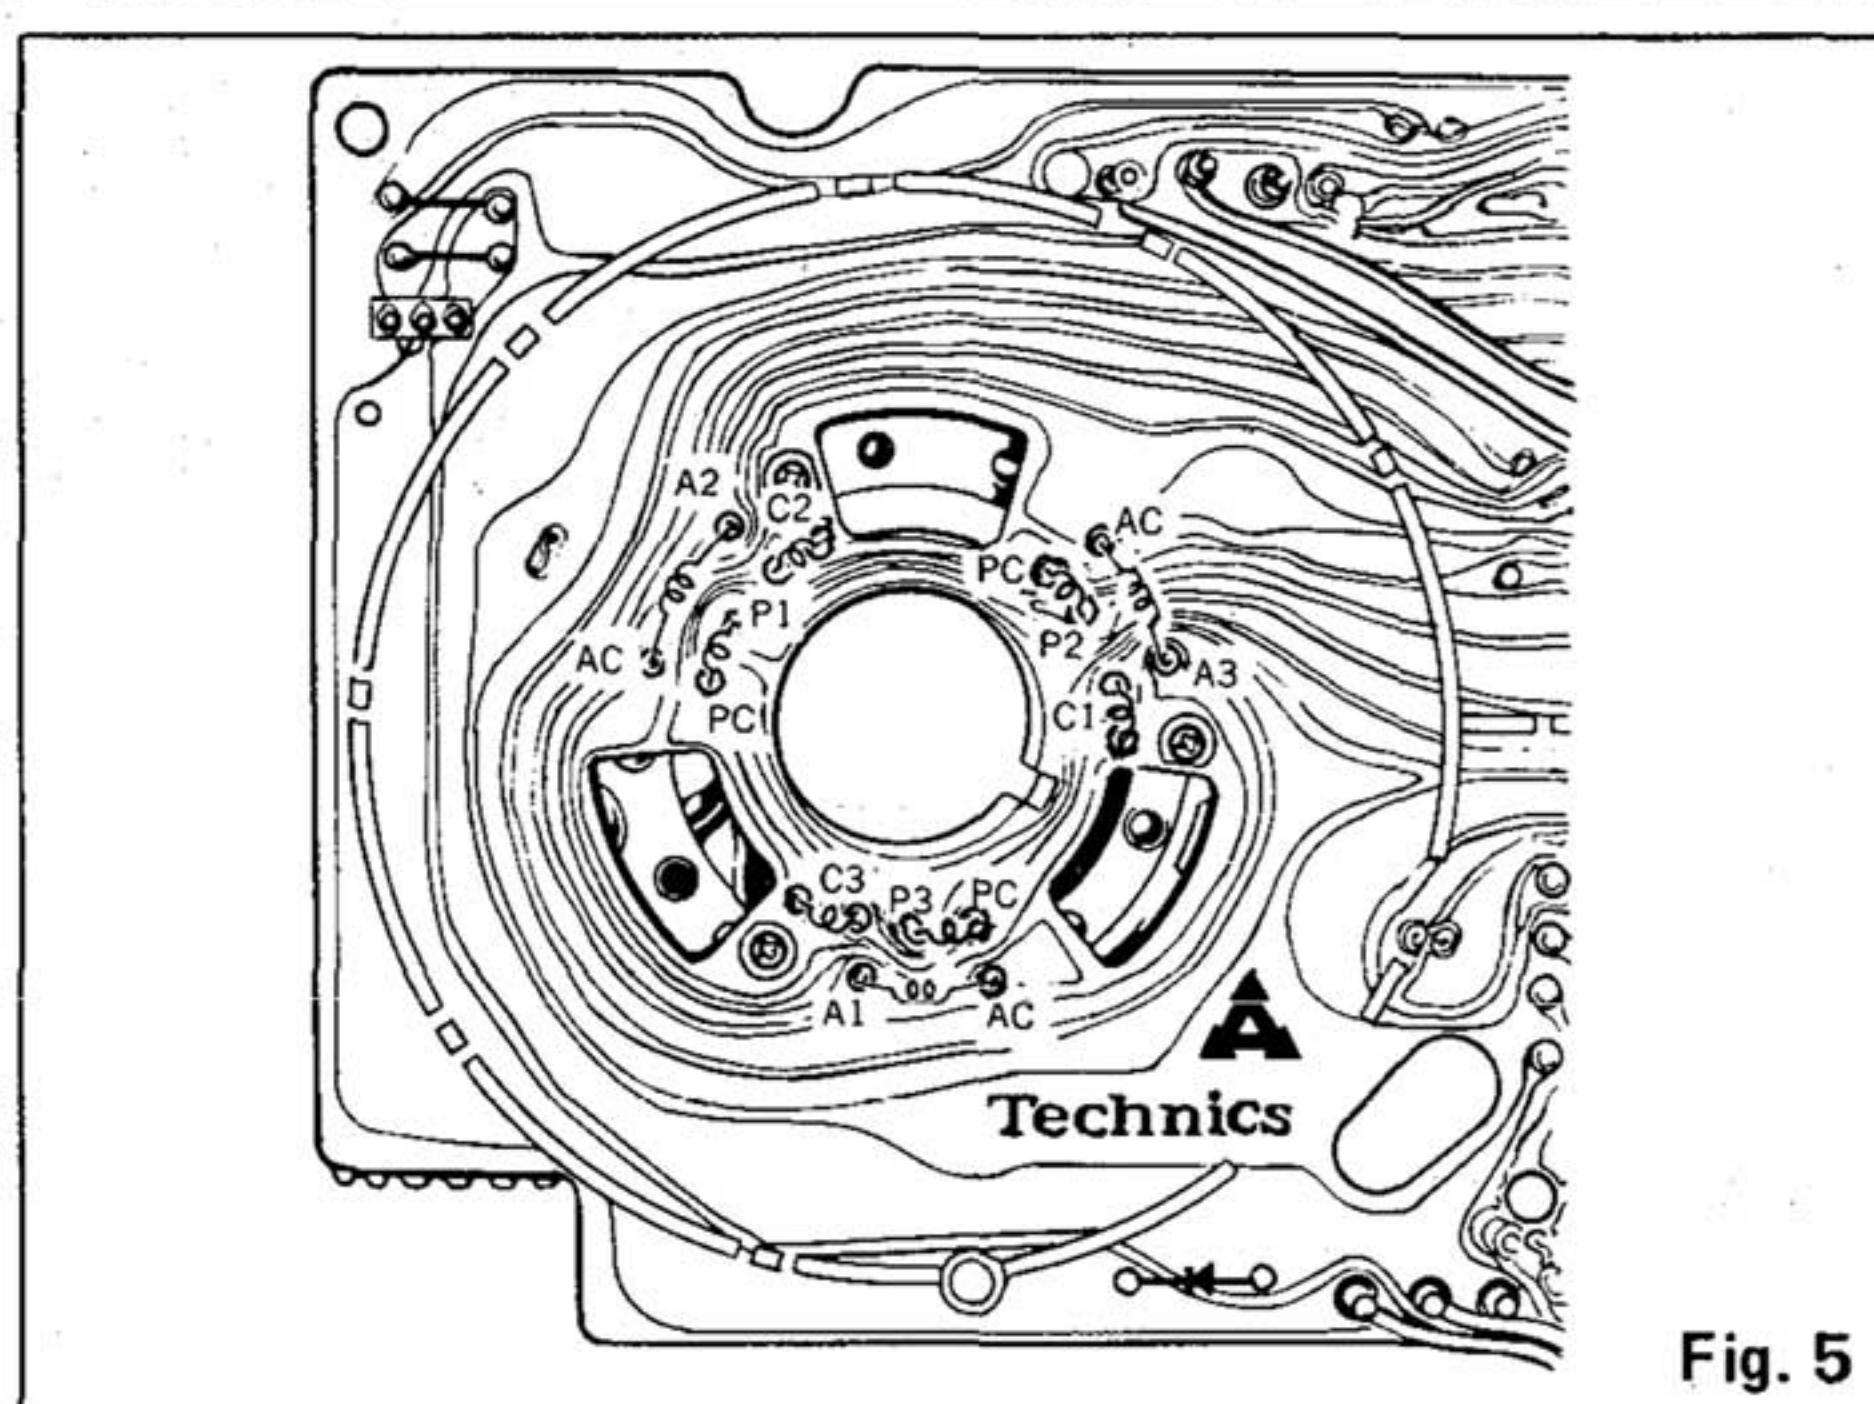

Fig. 5
4. Remove soldering at each coil of the stater frame. (See Fig. 5)